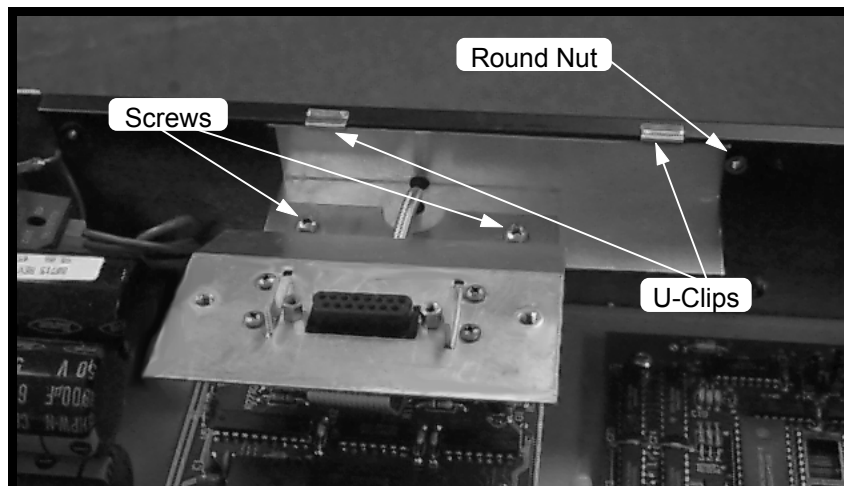

Figure 2
5. Remove the electronics module from the protective bag and position the rear bracket against the inside of the rear panel of the printer as shown in Figure 2. Make sure that the edge of the bracket is pushed against the side of the round nut and press the two U clips over the top edge of the bracket and the top edge of the printer’s rear panel.
6. Loosen (do not remove) the two screws on the electronics module as indicated in Figure 2. Slide the base plate of the electronics module so that the edge fits into the groove as indicated in Figure 3. While holding the base plate in the slot, retighten the two screws.